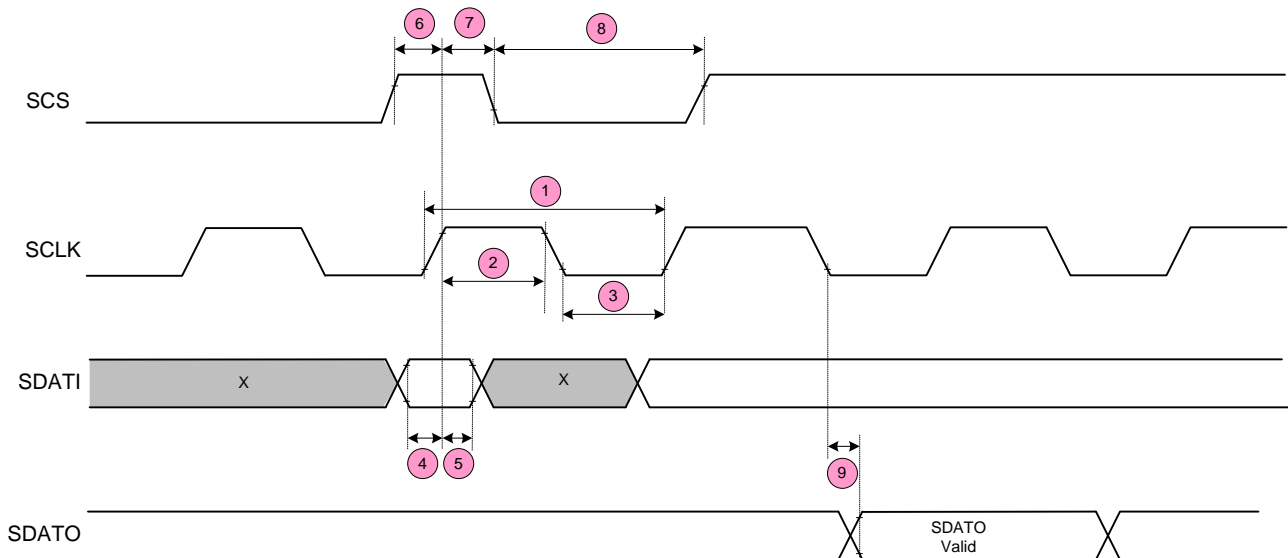

Figure 1. SPI Timing Requirements
- (1) SMODE = Low
- (2) These numbers refer to the corresponding number in Figure 1